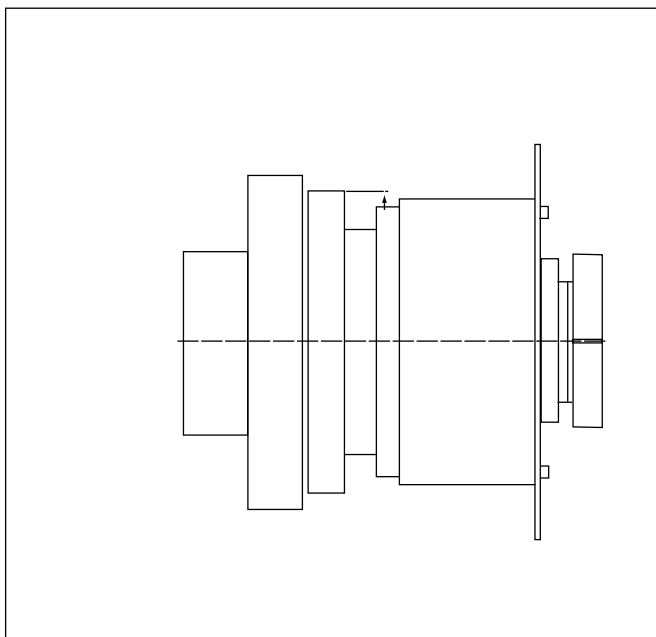

Figure 11 - Angular “C” Coupling Alignment
- a. Measure from the outside of the coupling flange to the outside of the adapter around the periphery of these two components **without rotating** the shafts. Refer to Figure 11.